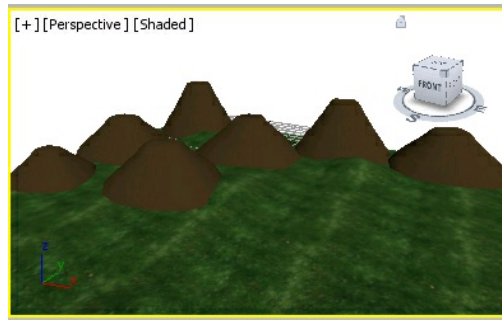

Figure 11-98 The hills displayed after scaling and alignment
15. Create multiple copies of *hill01* as required. Now, scale, rotate, and align them, as shown in Figure 11-98.